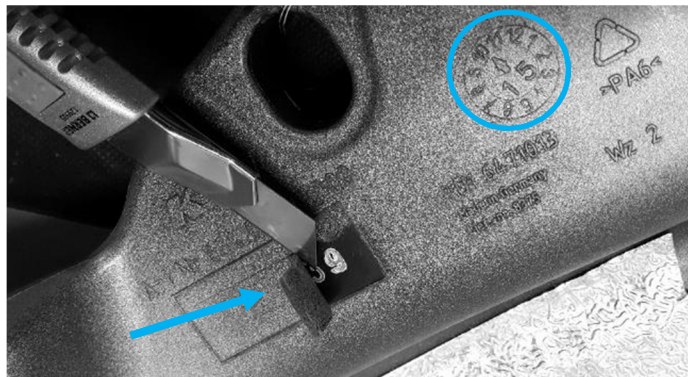

FIG. 4 - Check the serial number for the fuel tank
9. Check the serial number and the production date that is marked on the fuel tank as shown in FIG. 4. Use the table shown below to determine if the fuel tank is affected.